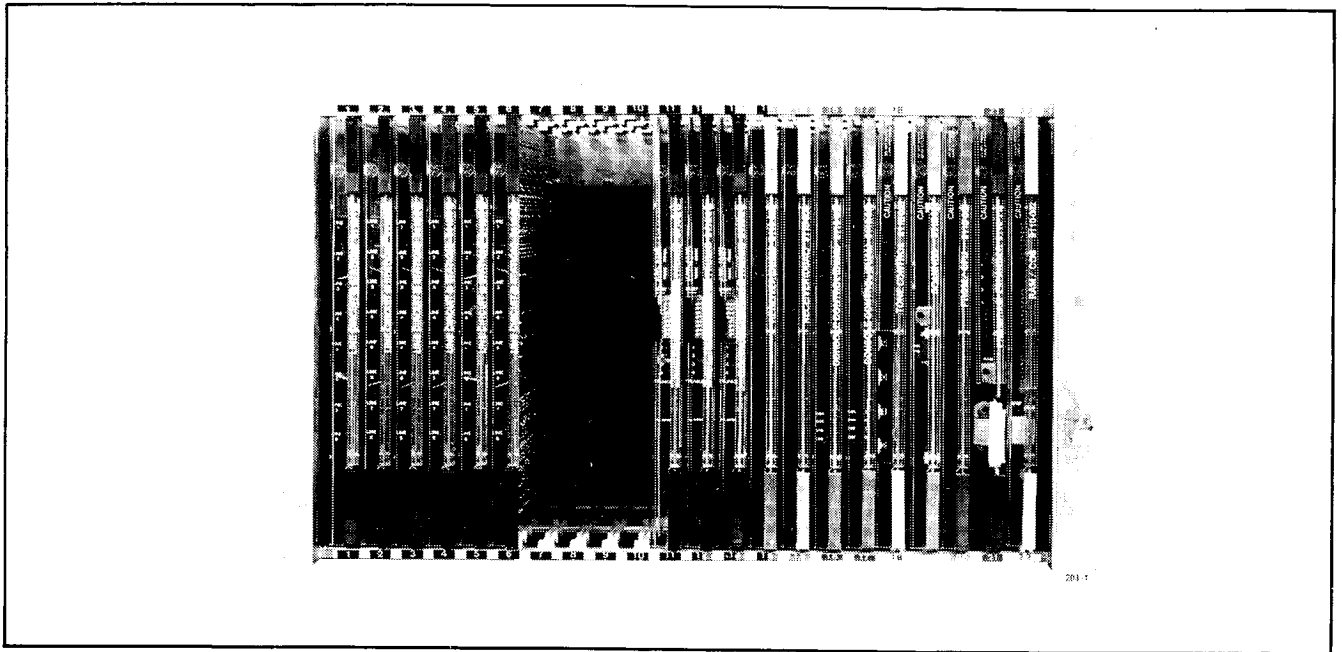

Fig. 2-3 Equipment Shelf
2.12 Each equipment shelf holds up to 22 printed circuit cards which plug into the shelf back plane. On the rear of the back plane are a number of Amphenol plugs providing interconnections between the shelves and external equipment. In addition to the plugs are a number of screw down terminals allowing shelf connection to the primary power supply unit. The equipment shelves (Fig. 2-3) measure 10.75in. (273mm) high, 19in. (480mm) wide, 16.375in. (415mm) deep, and weigh approximately 27lbs. (12.2kg) fully equipped.